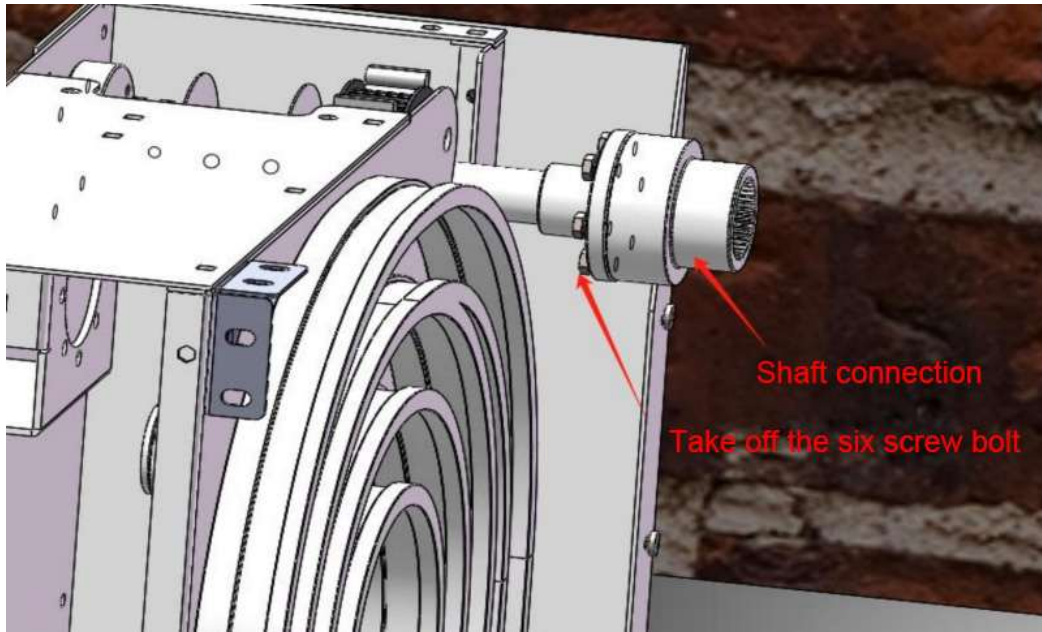
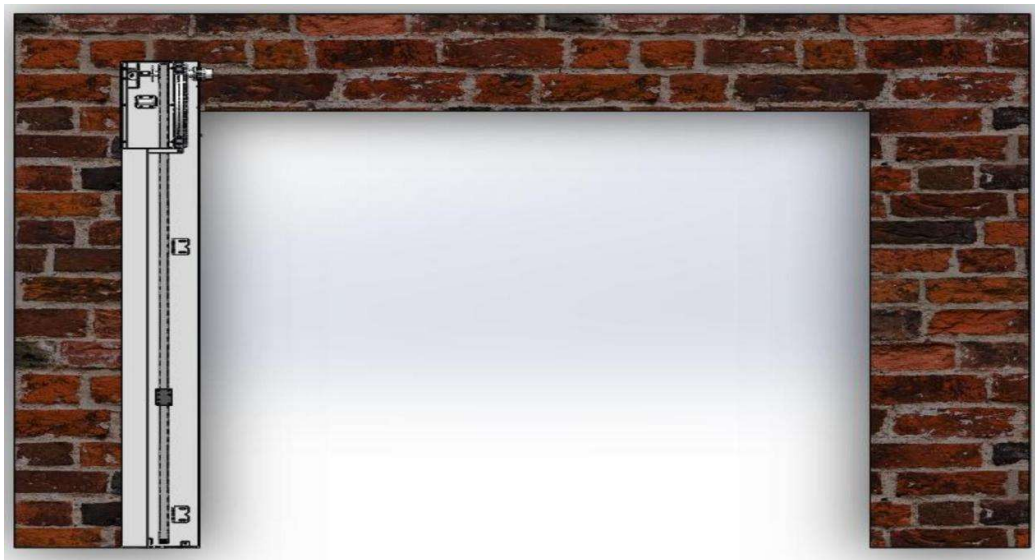

Figure 13(Coupling, take off 6 pcs of screws)
Figure 14
(2) Split installation (split installation is suitable for on-site installation environments where the door opening and indoor height are less than 10cm lower than the door body height.
① First, disassemble the coupling on the left side as shown in Figure 13, then stand the left door leg vertically on the installation wall. Use a level to measure the verticality of the front and side of the door body. Make sure it is 90 ° perpendicular to the ground. After adjustment, use expansion bolts to fix it to the installation wall (fix it in two or more times). During the fixation period, you need to repeatedly measure the level and verticality. As shown in Figure 14.